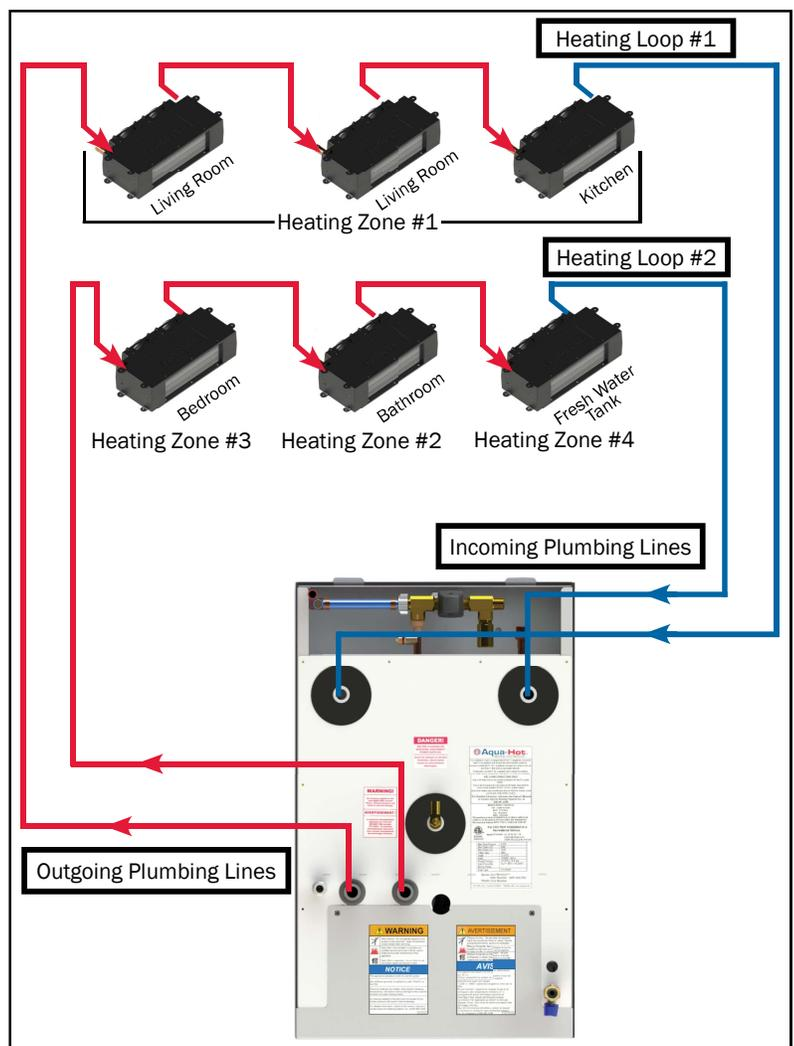

Figure 33
- See Figure 33 for reference.
NOTE: The kitchen and living room heat exchangers must be plumbed together **in-series** on "Heating Loop 1". The fresh water tank, bedroom, and bathroom heat exchangers must be plumbed together **in-series** on "Heating Loop 2". See the diagram in Figure 33.